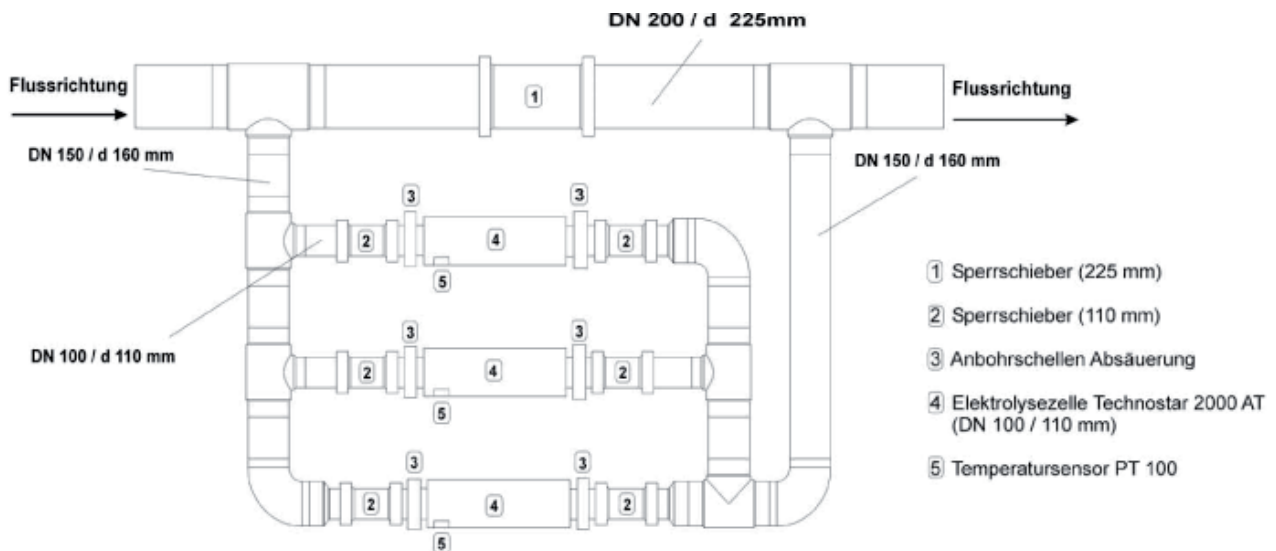

Fig. 6-1: System with three electrolysis cells of the Technostar 2000 AT system
- The numbers in brackets indicate the position numbers in Figure 6-1.
- Open up the stop valve of the clean water line (1).
- Close the stop valves in front (2) and behind (3) the electrolysis cells.